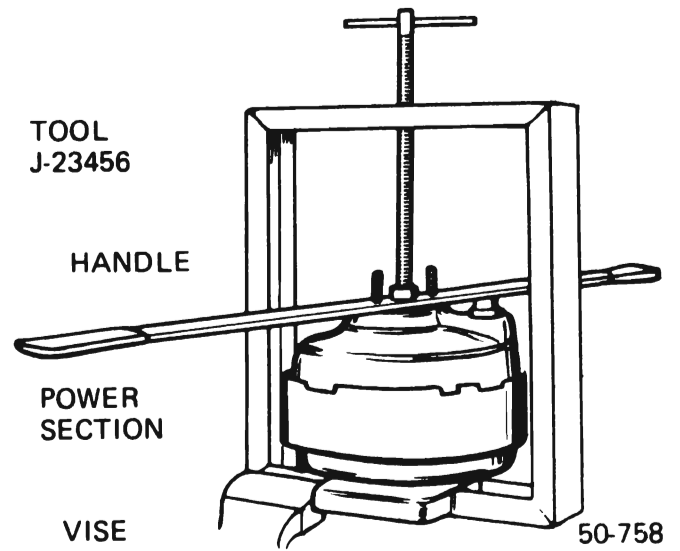

Figure 50-133 Unlocking Front and Rear Housings
12. Mount Tool J-23456 in a vise, and position the power section on the tool so that the four (4) studs on the rear shell fit into holes in the tool. See Figure 50-133.
13. Position the handle over the two (2) studs on the front shell and tighten the screw to apply a downward pressure on the front shell. Then, rotate the wrench and front shell counterclockwise until the lances in the edge of the rear shell are aligned with cutouts in the front shell. Considerable effort may be required to rotate the front shell.